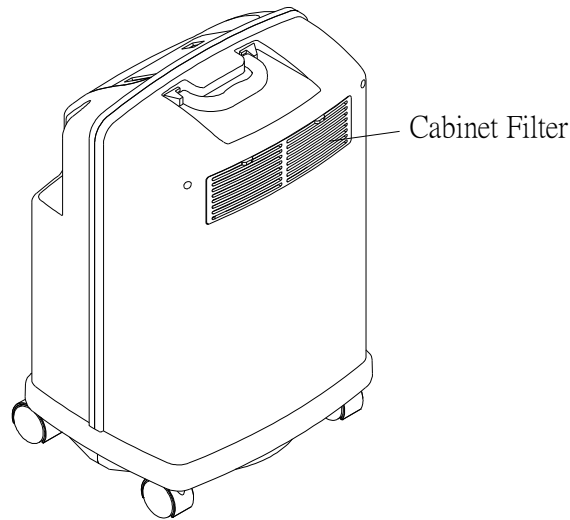

FIGURE 6 — CABINET FILTER LOCATION
*NOTE: All concentrator models have one cabinet filter located at rear side of the cabinet. (FIG 6)*